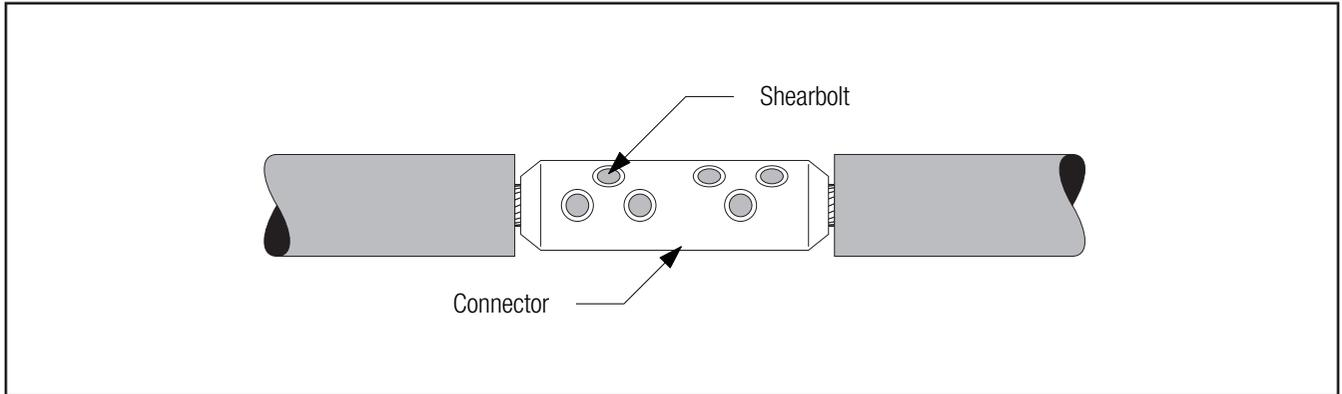

Figure 8
- 3.2 Install 3M Shearbolt Connector QCI 500-1000 according to the instructions included with the connector (Figure 8).